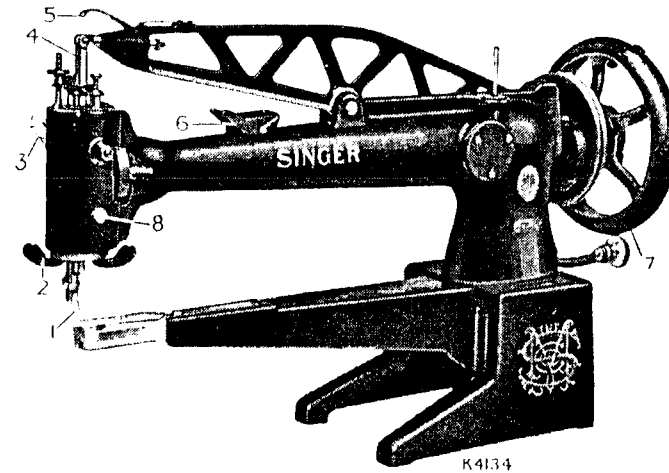
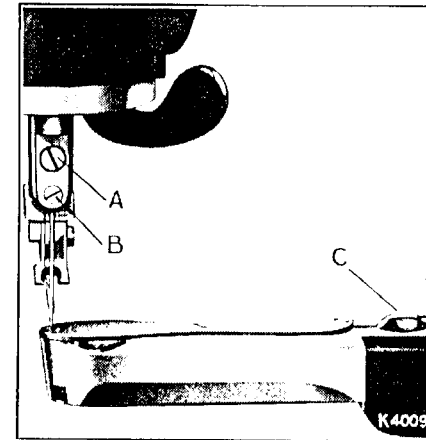
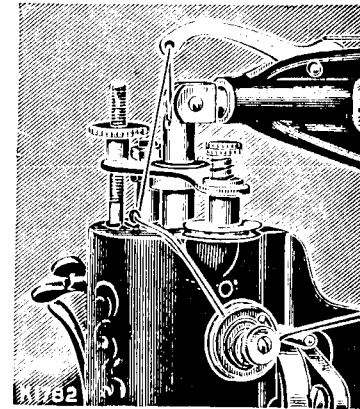

Fig. 1.
Fig. 3.
Fig. 5.
(See Fig. 1)
The feeding foot rises between each stitch while the needle is in the material, the needle serving as a pivot upon which the material can be turned in any direction. When desired, the feeding foot may be fixed to work in a straight line, in any direction, by tightening the knurled set screw (8, Fig. 1) in front of the machine head. **Never turn the work or alter the direction of the feed while the foot is pressing on the material, as this may cause missed stitches and damage the surface of the work.**
Raise the needle bar (4, Fig. 1) to its highest, loosen the screw (B, Fig. 3) and insert the shank of the needle up into the needle clamp as far as it will go, with the long groove of the needle to the left, and its eye directly in line with the arm of the machine. Tighten the screw (B). Loosen the screw (A) and move the clamp to right or left until the needle passes through the centre of the hole in the needle plate, then tighten screw (A).
Place a reel of thread on the spool pin on the arm of the machine, so that the thread will draw from the back. Raise the wire guide in the oil cup (6, Fig. 1) on the top of the arm and, after passing the thread under the wire guide, press it back into position. Then pass the thread at the back of the pin, which is near the tension discs on the top of the machine head, from back to front and right to left
between the tension discs, into the wire thread eyelet, and up and from front to back through the hole in the end of the take-up lever (5, Fig. 1). Draw about 10 inches of thread and insert the end into the slit in the end of the threading wire supplied with the machine. Now pass it from the back of the lever (5, Fig. 1) down through the hole in the centre of the needle bar, and from left to right through the eye of the needle, leaving an end of thread 3 or 4 inches long with which to commence sewing.
(See Fig. 5)
Raise the wire guide in the oil cup (6, Fig. 1) on the top of the arm and, after passing the thread under the wire guide, press it back into position. Then pass the thread over the pin near the tension discs in front of the arm (see Fig. 5), from right to left under and between the tension discs, up into the wire eyelet on
top of the arm of the machine, and from front to back through the hole in the end of the take up lever (5, Fig. 1). Draw about 10 inches of thread and insert the end into the slit in the end of the threading wire supplied with the machine; pass it from the back of the lever (5, Fig. 1) down through the hole in the centre of the needle bar, and from left to right through the eye of the needle, leaving an end of thread 3 or 4 inches long with which to commence sewing.
Raise the needle bar to its highest point and lift the feeding foot (1, Fig. 1) by means of the lifter (3, Fig. 1). Press down the lever (C, Fig. 3) and swing the needle plate round. Turn the balance wheel until the point of the shuttle is nearest you, then lift out the shuttle with the thumb and fore finger; turn it over and the bobbin will drop out.
Raise the needle bar to its highest point by turning the balance wheel, lift the feeding foot by means of the lifting lever (3, Fig. 1), and draw the material backward about 3 inches; then cut the threads close to the work. Leave both ends of thread under the feeding foot.